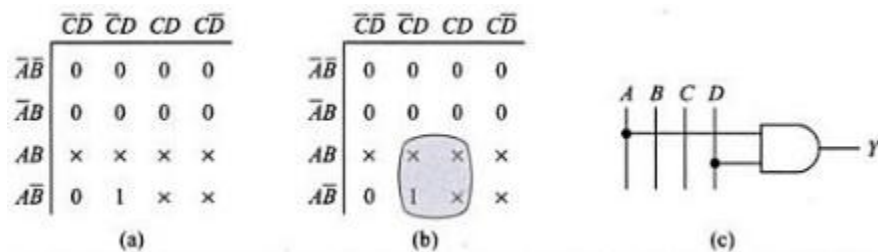

Figure 3.23: Don't care conditions
- In such cases, the output level is not defined; it can be either HIGH or LOW. These output levels are indicated by 'X' in the truth tables and are called *don't care conditions* (Figure: 3.23 & Table: 3.8).